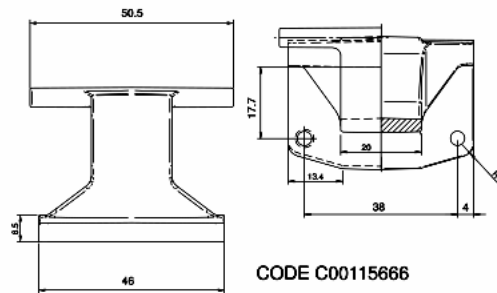

Fig . 001
From serial no. 50207.0001, all Ariston models produced in the Teverola factory (see table 001 attached) with industrial code (given on the rating plate) starting with 46, have been equipped with a Zamac hinge with 150° opening angle, code C00115666 (see Fig.001).
- 2) Position the balancing springs inside the support holes found further back than the previous position on the cabinet (see fig.001);